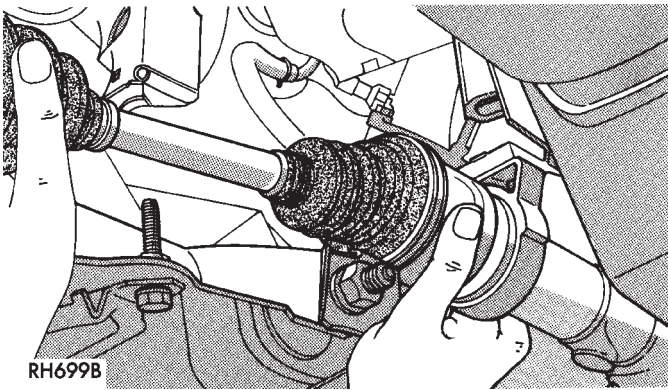

Fig. 11 Removing Driveshaft Assembly Equal Length
(1) Hold inner joint assembly at housing (Figs. 11 and 12) while aligning and guiding the inner joint spline into the transaxle or intermediate shaft assembly. **On Equal Length System vehicles only, be sure that the rubber washer seal is in place on the right inner C/V joint (Fig. 1).**